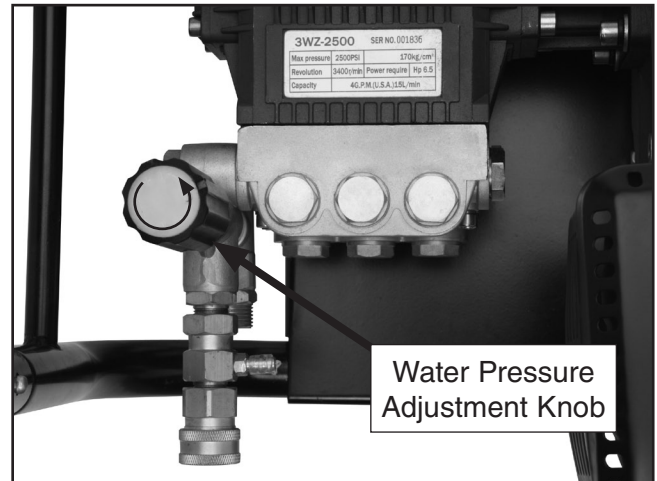

Figure 8. Water pressure adjustment knob.
- ADJUST THE PRESSURE REGULATOR ON THE PUMP. Turn the water pressure adjustment knob counterclockwise to lower the pressure (**Figure 8**). Once you have finished using your pressure washer, return the regulator to its original position by turning it clockwise.